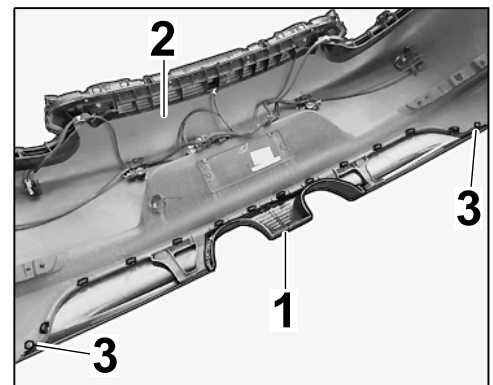

Figure 32
7.4 Clip rear skirt ⇒ *Figure 32 -1-* into the rear apron ⇒ *Figure 32 -2-*.
Screw in and tighten screws ⇒ *Figure 32 -3-*.